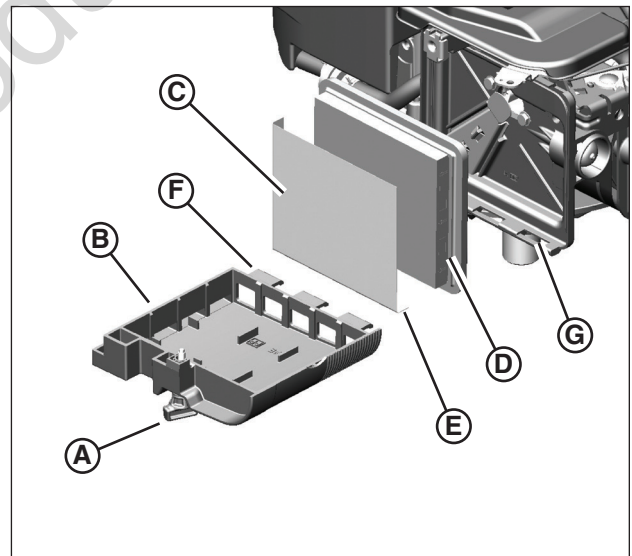

Figure 14: Air filter and pre-cleaner
1. Loosen the fastener (**A**, **Figure 14**) that holds the cover (**B**).